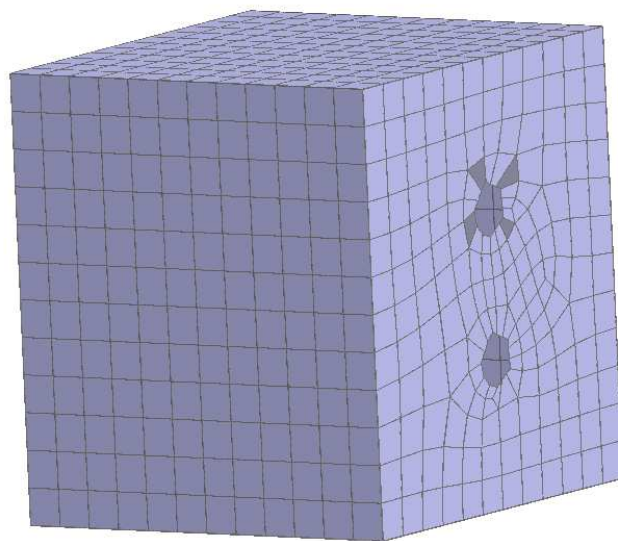

Figure 11: Select elements for creating a seam.
- Left-click on the elements around the edge of a hole while holding the *shift-key*. Make sure to select elements with nodes on the hole edge as shown in Figure 11.